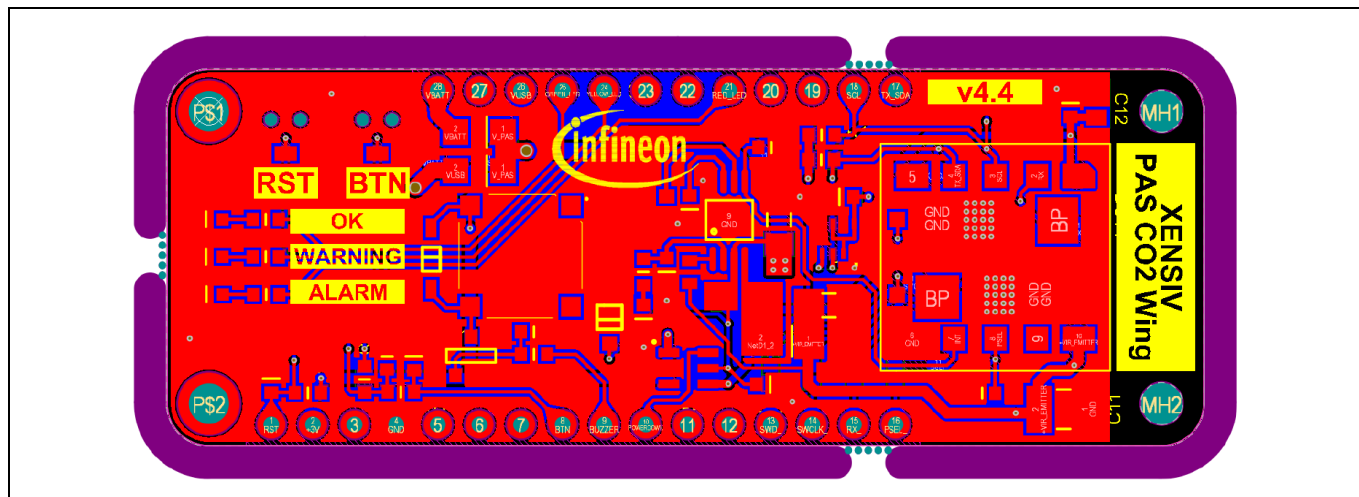

Figure 28 PCB layout of XENSIV™ PASCO2V01 Wing board
The size of the XENSIV™ PASCO2V01 Wing board is 43 mm (L) x 23 mm (W), as shown in Figure 28.